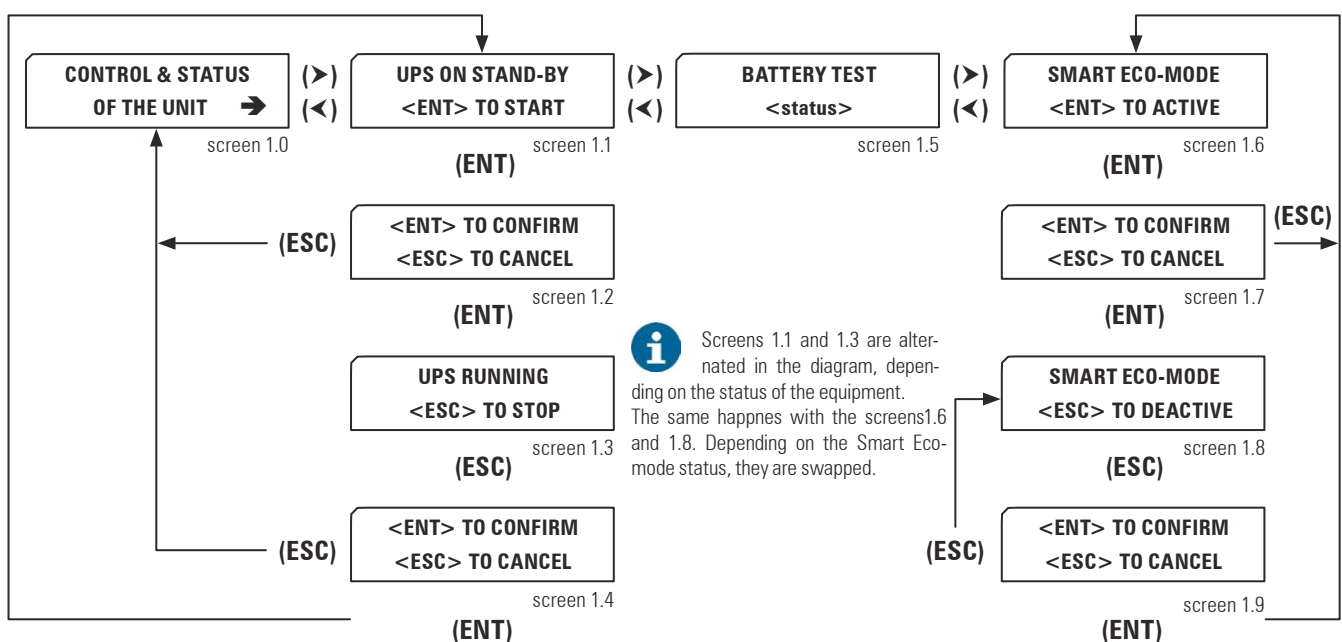
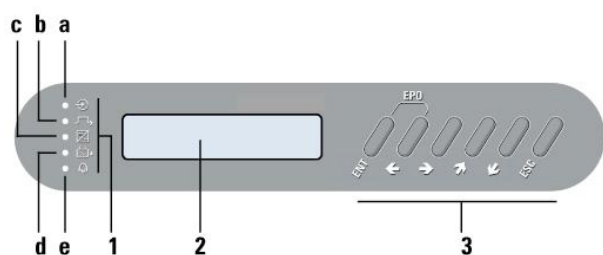

Fig. 38. Diagram, start up/shutdown procedure.
Fig. 39. Indications of LED from control panel **(PC)**.
- At this point, with no active alarm, green LED of Input Voltage OK (**a**) (see Fig. 39), should light in all UPSs.
From main screen press (**▼**) key to access to «CONTROL AND STATUS OF THE UNIT» submenu (screen 1.0), and then press (**►**) key. The screen 1.1 will be displayed, asking you to start the equipment up by pressing (**ENT**). Do so, and then validate the operation by pressing (**ENT**) again. See the diagram of Fig. 38.
- Make sure that the inverter on LED indication **(c)** lights (green), and bypass LED **(b)** is turned OFF in all UPSs (see Fig. 39).
- Start up the inverter by means of the keypad of the control panel (**3**) (see Fig. 39).
From main screen press (▼) key to access to «CONTROL AND STATUS OF THE UNIT» submenu (screen 1.0), and then press (►) key. The screen 1.1 will be displayed, asking you to start the equipment up by pressing (**ENT**). Do so, and then validate the operation by pressing (**ENT**) again. See the diagram of Fig. 39.
Through the keypad of control panel (**3**) (see Fig. 38) and from main screen press (▼) key to access to «CONTROL AND STATUS OF THE UNIT» submenu (screen 1.0), and then press (►) key. The screen 1.3 will be displayed, asking you to shut- down the equipment by pressing (**ESC**). Do so, and then validate the operation by pressing (**ENT**). See the diagram of Fig. 38.
Through the keypad of control panel **(3)** (see Fig. 39) and from main screen press (▼) key to access to «CONTROL AND STATUS OF THE UNIT» submenu (screen 1.0), and then press (►) key. The screen 1.3 will be displayed, asking you to shutdown the equipment by pressing **(ESC)**. Do so, and then validate the operation by pressing **(ENT)**. See the diagram of Fig. 38.